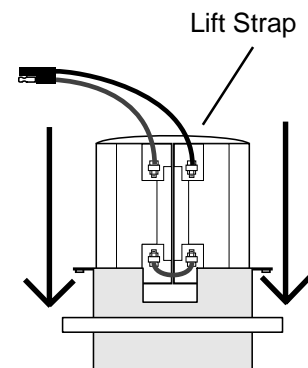

Fig. 2
6. Remove the four (4) screws (with washers) that hold the forward bulkhead attached to the battery case. Lift the bulkhead straight up and off, and set aside.
8. If necessary, turn the batteries to position them directly above the battery compartment with the terminals connected to the battery leads facing up and aligned with the opening in the top center of the battery compartment. The single wire that connects the two batteries must be facing directly down. (Fig. 2)